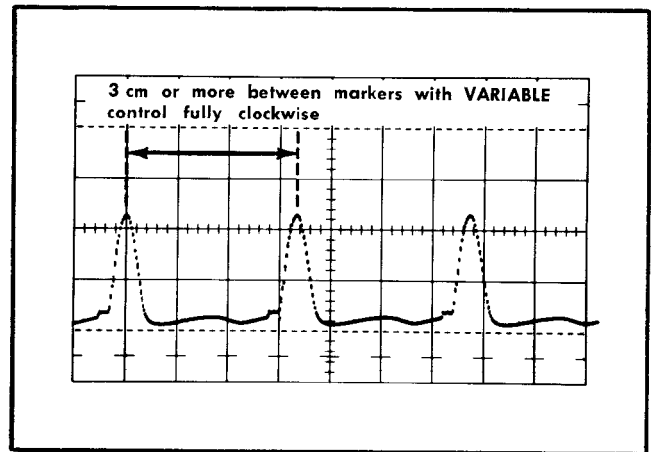

Fig. 5-57. Indicator oscilloscope display for checking Time/Cm VARIABLE control.
f. Check for at least 3 cm between markers, indicating a display expansion of 3:1 or greater (see Fig. 5-57).